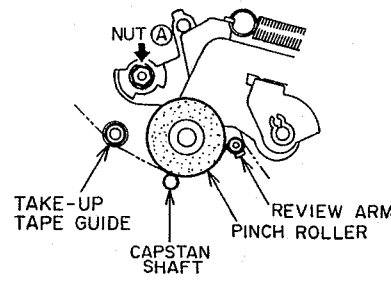

Fig. 4-6
- 2) Turn the REVIEW ARM height (A) nut so that the edge of the tape barely touches the lower part of the TAKE-UP TAPE GUIDE, without any curl or wrinkle between the TAKE-UP TAPE GUIDE and the CAPSTAN SHAFT as shown in Fig. 4-6 to Fig. 4-8.
- 4) Confirm there is no curl or wrinkle near the REVIEW ARM's guide. If curl or wrinkle of the tape occurs, slightly turn the (A) nut (Shown in Fig. 4-6) until it disappears.